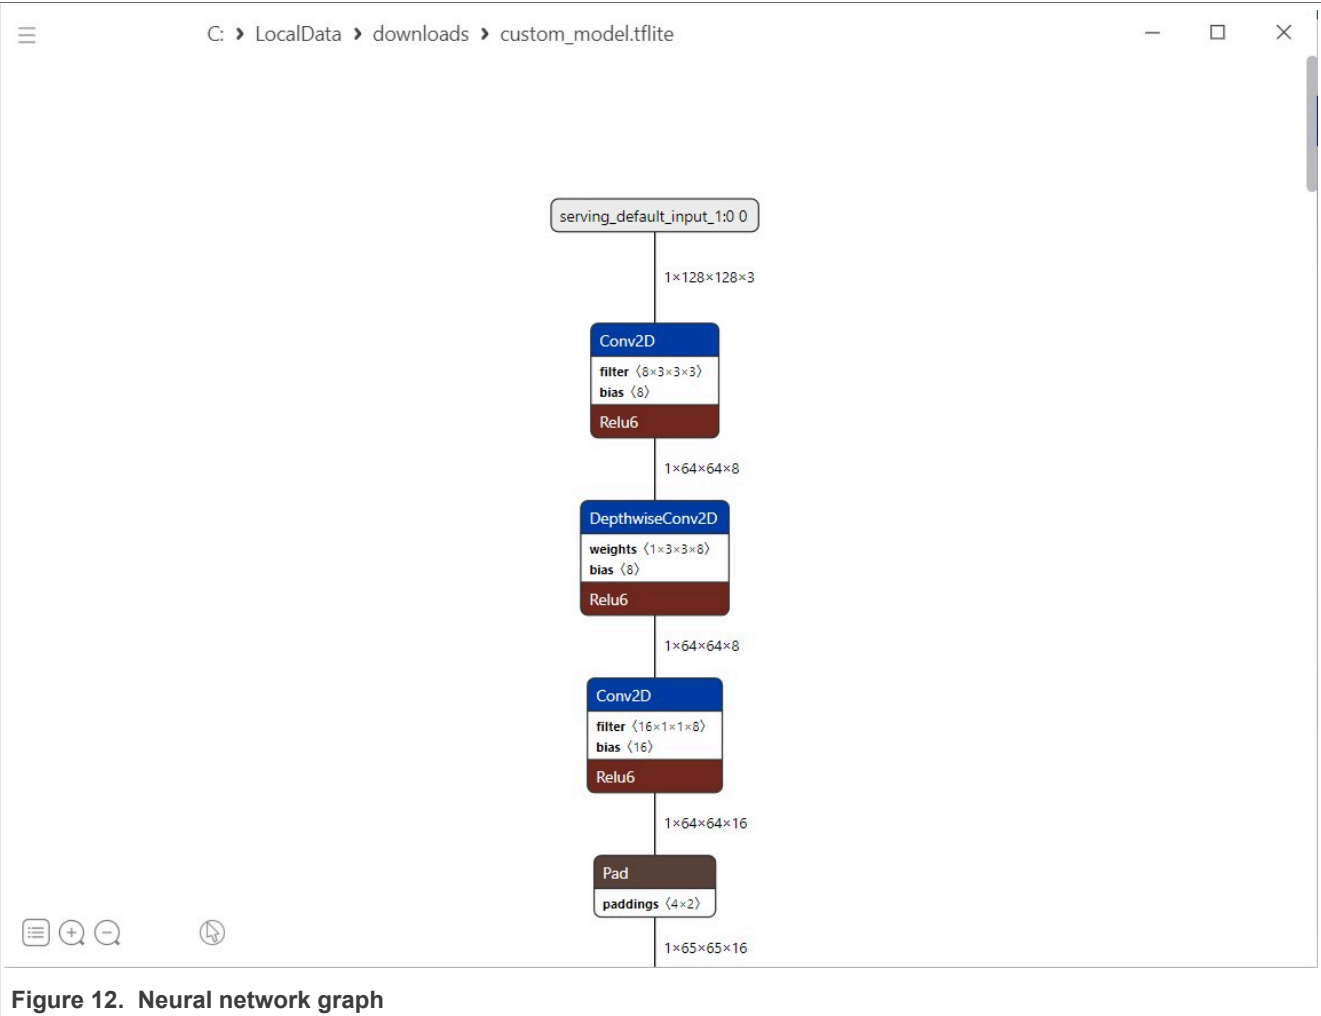

Figure 12. Neural network graph
2. After the converter server initialization successfully, close the window and open the customer model in the MODEL TOOL. The neural network graph is shown in the window as in Figure 12.